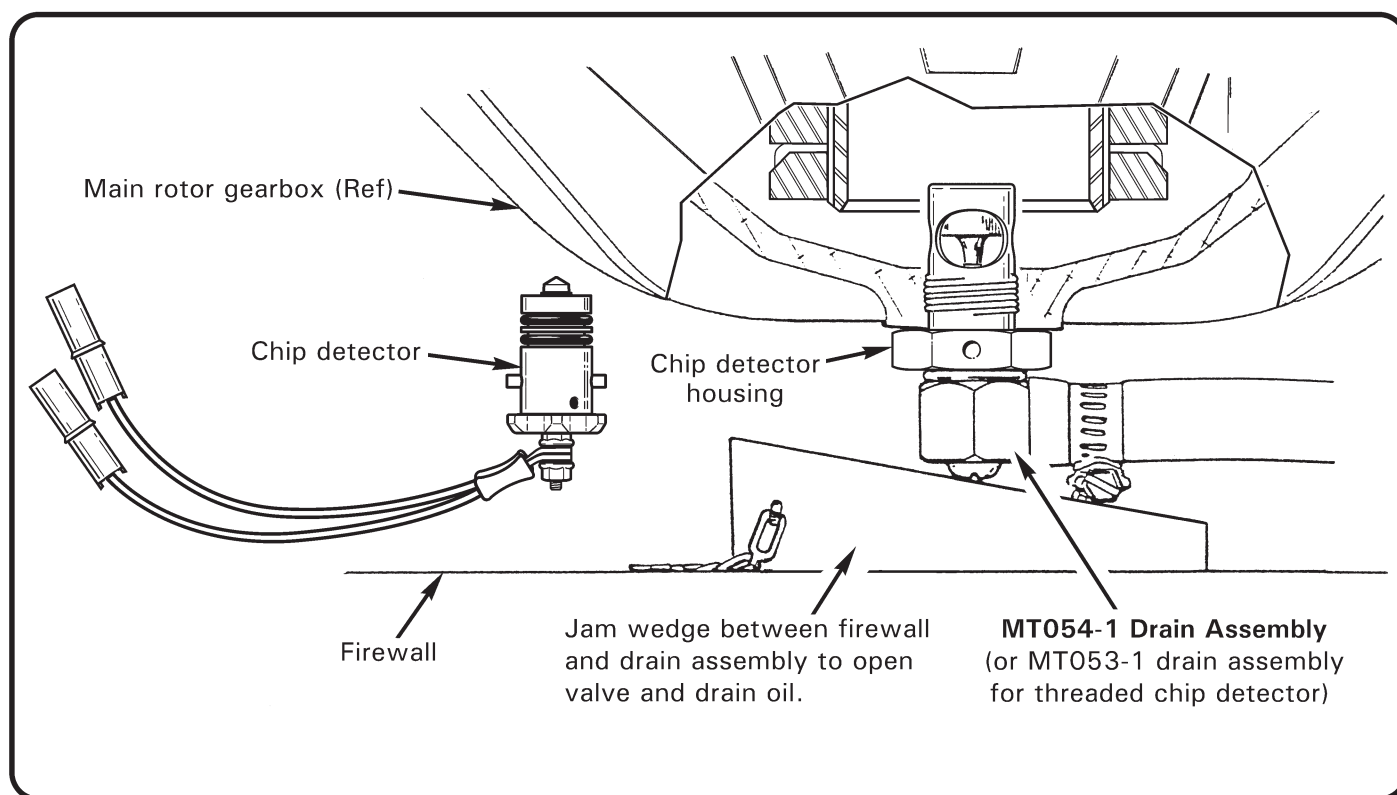

FIGURE 22-1B DRAINING MAIN ROTOR GEARBOX
3. Refer to Figure 22-1B. Insert MT054-1 drain assembly (or MT053-1 drain assembly for threaded chip detector) into housing. Position drain hose overboard into a suitable drain container. Jam wedge between firewall and drain assembly to open valve and drain oil. Remove drain assembly after oil has drained.
3. Refer to Figure 22-1B. Insert MT054-1 drain assembly (or MT053-1 drain assembly for threaded chip detector) into housing. Position drain hose overboard into a suitable drain container. Jam wedge between firewall and drain assembly to open valve and drain oil.